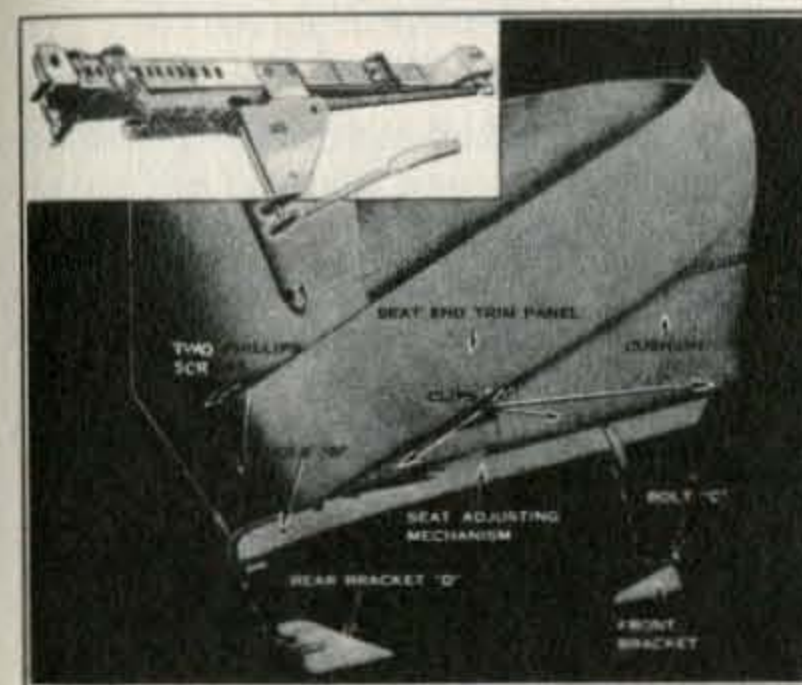

Fig. 38. Removing Front Seat
The front passenger seat in all model and body styles can be moved forward or backward for a total of 4 inches. The positioning of the seat is by means of a handle control at the center left side of the seat cushion. A new ratchet mechanism prevents the seat assembly moving while the control handle is in the normal position. See Fig. 38.
NOTE—End trim panels are held to seat cushion frame by two cross head screws at rear end and one at front end. The center section is held fast by means of slots in trim panel resting over clips "A" on seat frame. To remove end trim panel, remove three screws, seat adjusting handle and raise up. See Fig. 38.
2. Place large closed cotter key or nail in hole "B" through either side of seat adjusting mechanism. See Fig. 38. The cotter keys or nails should be left in adjusting mechanism until seat assembly is again entirely reassembled in body. They must then be removed in order for seat to slide back and forth.